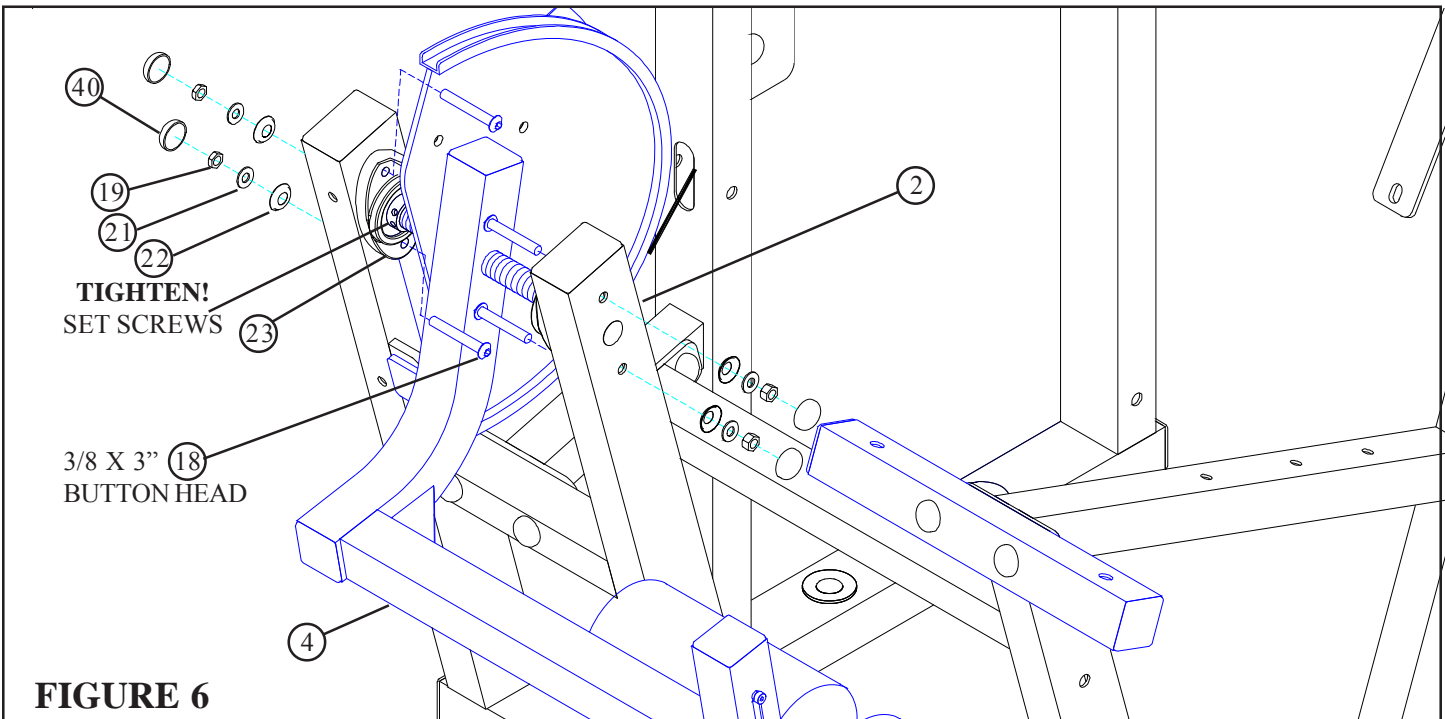

FIGURE 6
- **SECURELY** assemble the PILLOW BLOCKS (23) on the PIVOT ARM (4) to the PIVOT ARM SUPPORT (2) using the four previously inserted 3/8 X 3" BUTTON HEAD CAP SCREWS (18), four 3/8" SAE WASHERS (21), four RH WASHERS (22), four 3/8" LOW HEIGHT LOCK NUTS (19) and four RH CAPS (40) as shown in FIGURE 6.
- **IMPORTANT!** When PIVOT ARM (4) is centered and level in the PILLOW BLOCKS (23), tighten the PILLOW BLOCK set screws.